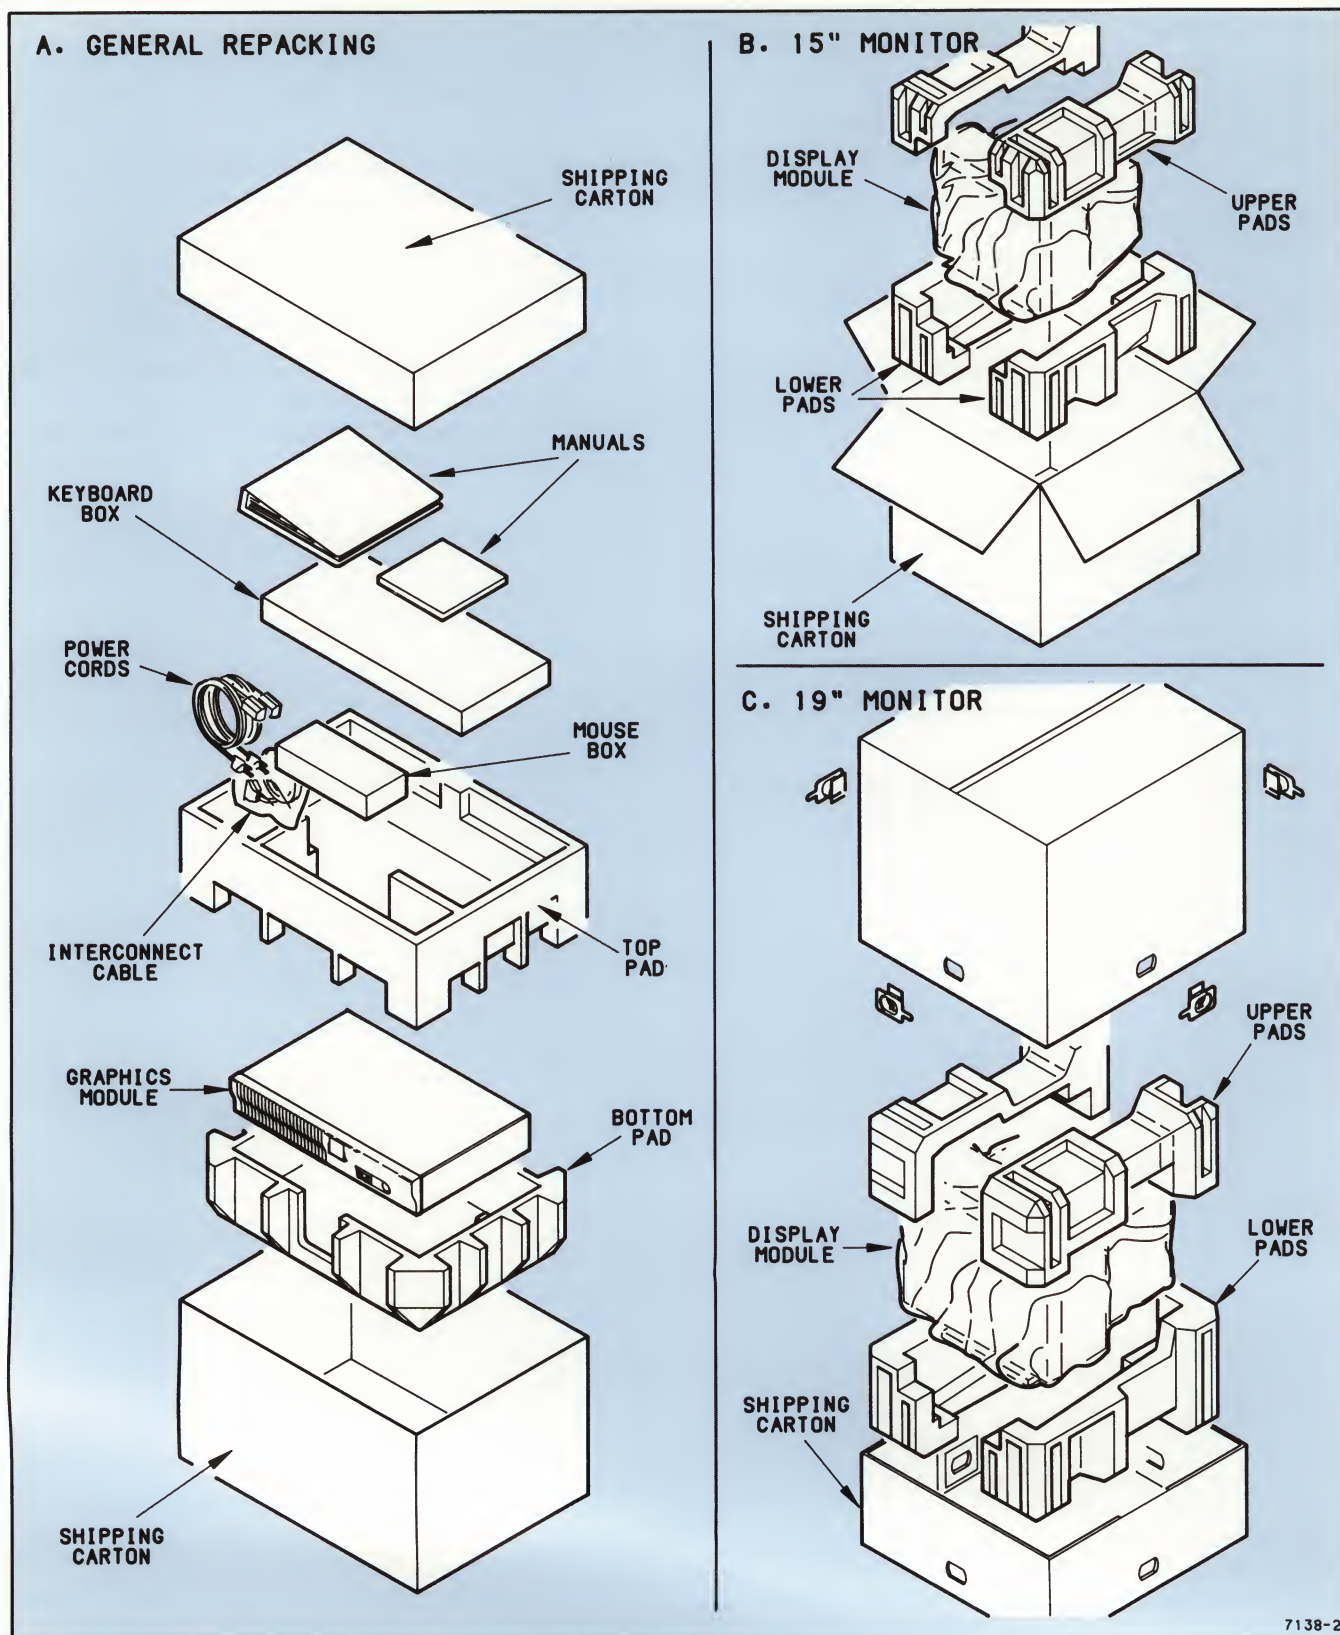

Figure 2-2. Unpacking and Repacking Diagram.
After you open the carton and remove this manual, continue with the following procedures. Refer to Figure 2-2 (next page) as a guide to help you unpack.
- Save the packing material in case you need to move the 4211 in the future. Use Figure 2-2 (next page) as a guide to help you repack the various modules of the 4211 in the correct cartons.